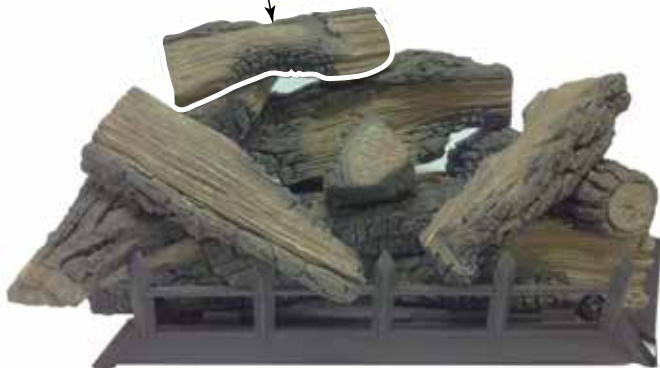

Figure 34
- Place log #12 onto mid left log (#8) and mid rear log (#7) by placing notch on bottom of log onto locating block on log #8. Rest right end of log onto top of log #7. *Figure 34*